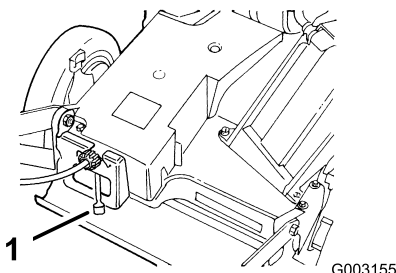

Figure 15
4. Move the ground speed control to the Neutral (N) position (Figure 15).